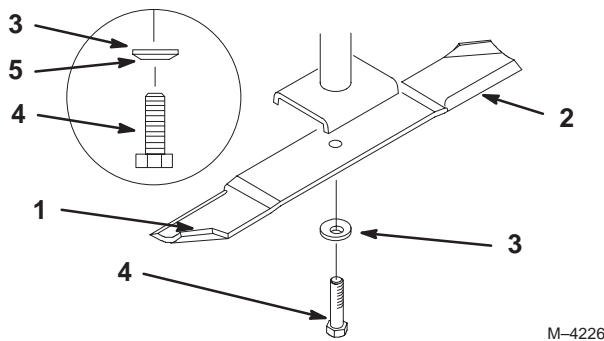

Figure 34
1. Hold the blade end using a rag or thickly-padded glove. Remove the blade bolt, spring disk and blade from the spindle shaft (Fig. 34).
blade is not balanced, file some metal off the end of the sail area only (Fig. 34). Repeat this procedure until the blade is balanced.
1. Install the blade onto the spindle shaft (Fig. 34).
2. Install the spring disk and blade bolt (Fig. 34). **Torque the blade bolt to 85–110 ft-lb (115–150 N m).**